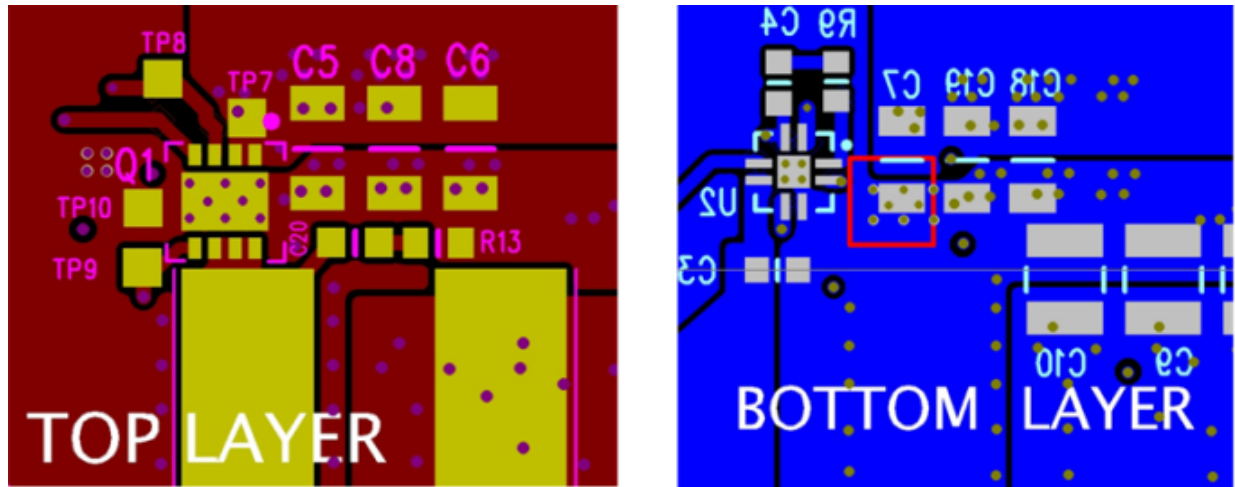

Figure 34. Recommended PCB Layout (Top Down)
- The placement of the input capacitors relative to the Power Block's VIN and PGND pins should have the highest priority during the component placement routine. It is critical to minimize these node lengths. As such, ceramic input capacitors need to be placed as close as possible to the VIN and PGND pins (see Figure 34). The example in Figure 34 uses 6 × 10 μF ceramic capacitors (TDK part number C3216X5R1C106KT or equivalent). Notice there are ceramic capacitors on both sides of the board with an appropriate amount of vias interconnecting both layers. In terms of priority of placement next to the Power Block, C5, C7, C19, and C8 should follow in order.
- In the event the switch node waveform exhibits ringing that reaches undesirable levels, the use of a Boost Resistor or RC snubber can be an effective way to reduce the peak ring level. The recommended Boost Resistor value will range between 1 Ω to 4.7 Ω depending on the output characteristics of Driver IC used in conjunction with the Power Block. The RC snubber values can range from 0.5 Ω to 2.2 Ω for the R and 330 pF to 2200 pF for the C. Refer to TI App Note SLUP100 for more details on how to properly tune the RC snubber values. The RC snubber should be placed as close as possible to the Vsw node and PGND see Figure 34 ⁽¹⁾
- Use the smallest drill size allowed in your design. The example in Figure 34 uses vias with a 10 mil drill hole and a 16 mil capture pad.